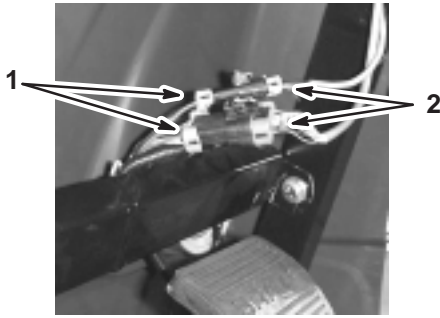

Figure 5
6. Connect the Spray Pro wire connectors to the wire connectors located under the dash (Fig. 5).